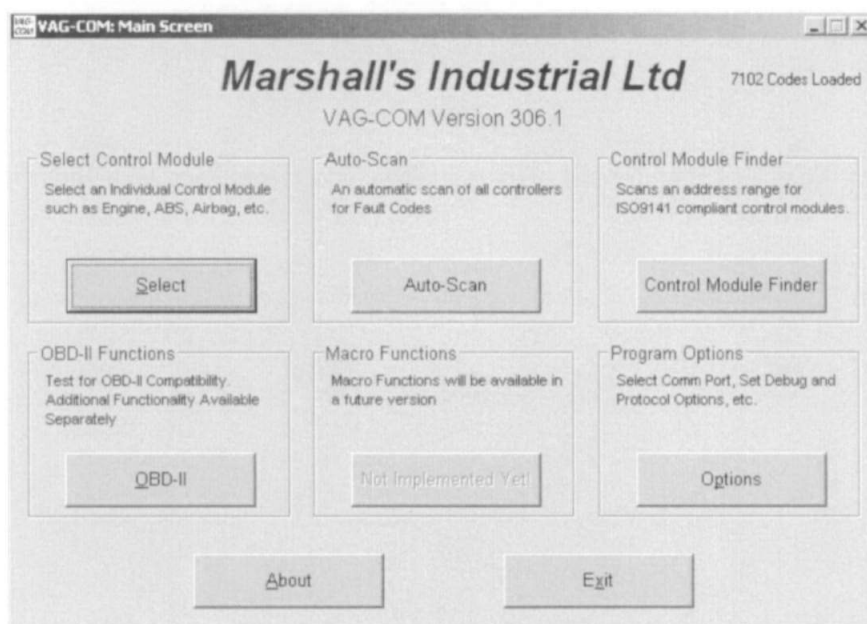

Fig 3 Main screen
2.6 From the main screen (see Fig 3) click the [Options] button to go to the options screen (see Fig 18).